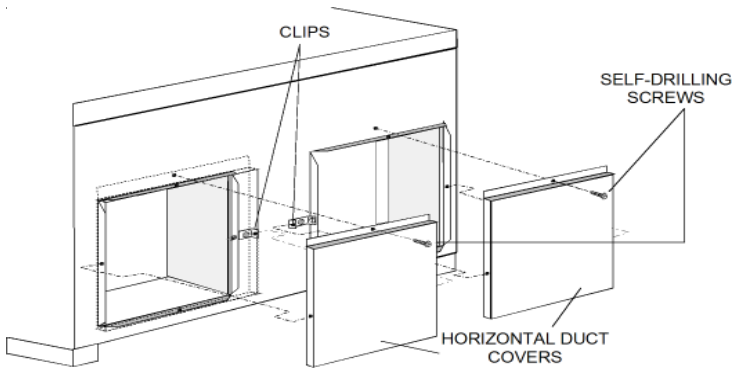

Figure 12 - Horizontal Duct Cover Installation
3. Attach 16x16 horizontal covers using screws provided with kit to the outer duct opening flange and cover clip holes (Figure 12).